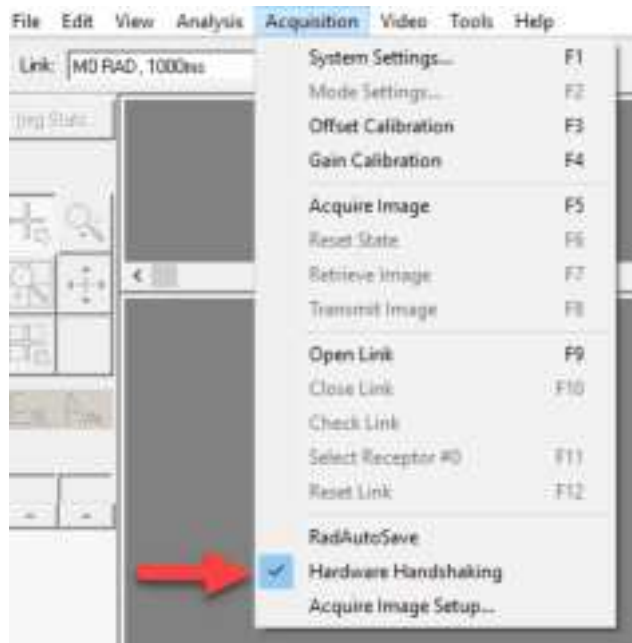

Figure 50 Hardware Handshaking Selected
WARNING In order to acquire an image with X-ray exposure in vTrigger mode, Hardware Handshaking must be enabled, see Figure 50 , or an image without exposure will be returned.
- 2 Make sure **Hardware Handshaking** is selected, see Figure 50.
Note	In order to acquire an image with X-ray exposure in vTrigger mode, Hardware Handshaking must be enabled, see Figure 50, or an image without exposure will be returned.